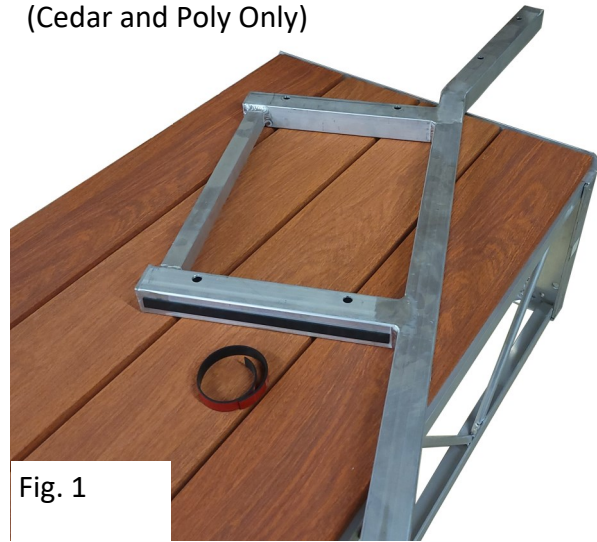

Fig. 1
- (2) M10x90 Bolts/Nut (Low-Pro Mounting)
- (12)#6 x 1-1/2" Phillips head Screws (Cedar and Poly Only)
**Step 1:** Attach 11" Adhesive Insulator on the bottom of Bench Upright, where the Upright Frame will make contact with Decking. See Fig. 1.